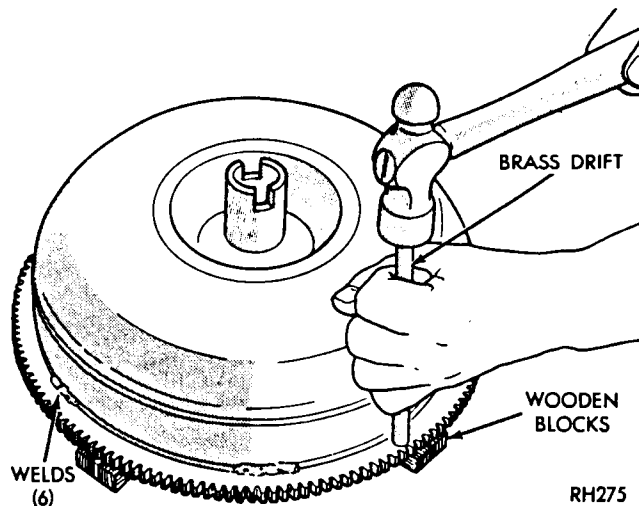

Fig. 2—Removing Starter Ring Gear (Non Lock-Up Only)
(1) Cut through weld material at rear side of ring gear with a hack saw or grinding wheel (Fig. 2). Be careful not to cut or grind into front cover stamping.
(2) Scribe a heavy line on front cover next to front face of ring gear to aid in locating the new gear.
(3) Support torque converter on front cover, adjacent to the lugs with blocks of wood to prevent altering lug position. The torque converter must **not** rest on the front cover hub during this operation. Using a blunt chisel or drift and a hammer, tap downward on ring gear near welded areas to break any remaining weld material (Fig. 2). Tap around ring gear until it comes off the torque converter.
(4) Smooth off weld areas on the cover with a file.